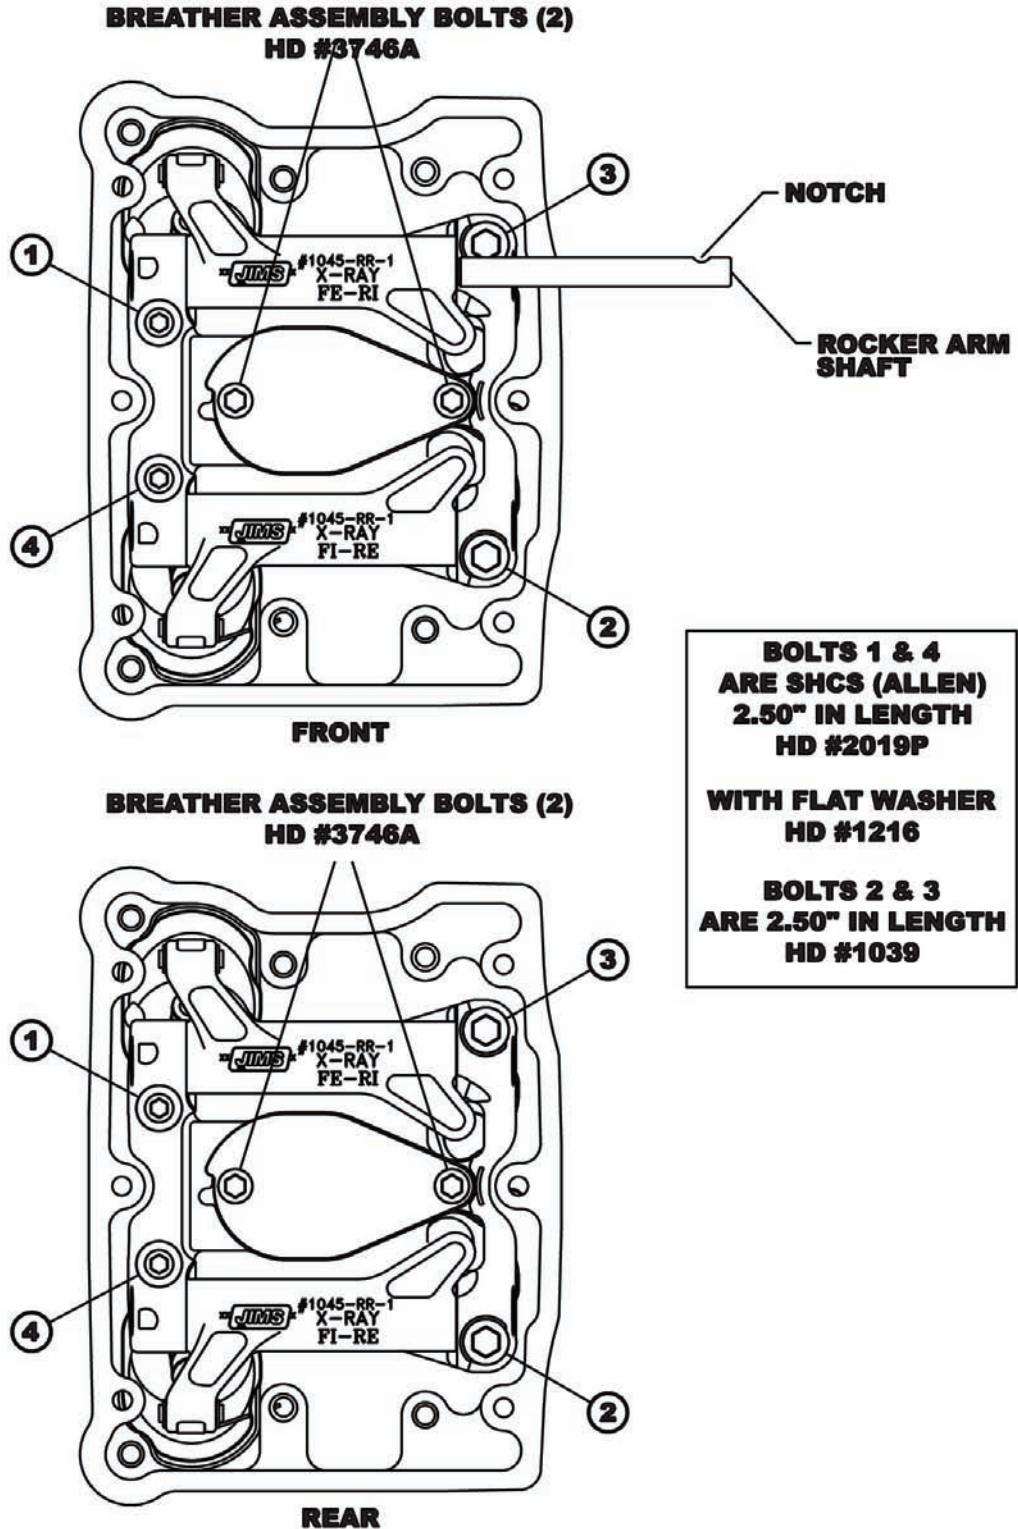

Figure 2
- One intake and one exhaust rocker arm. They are different from one another. Their part numbers are laser-marked on each rocker arm for easy identification. See Fig. 2.
- Position the exhaust and intake rocker arms. See Fig. 2
- Slide the rocker shafts into the rocker arm support plate, capturing the rockers. See Fig. 2.
- Be sure that the notched-end of each shaft is toward the right side of the engine. See Fig. 2.
- Thread the two Allen head bolts (2019P with washer 1216) through the left hand side of the support plate and into the head. (screws and washers supplied with rocker support) See Fig. 2.
- Follow the pattern shown in Fig. 2.